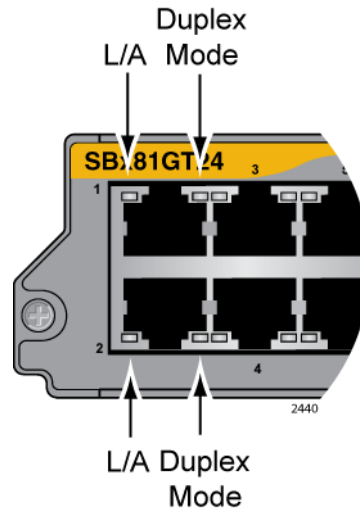

Figure 13. Port LEDs on the AT-SBx81GT24 Line Card
**LEDs** Each port on the AT-SBx81GT24 Line Card has two LEDs. The LEDs are shown in Figure 13 on page 37 and described in Table 7 on page 37.